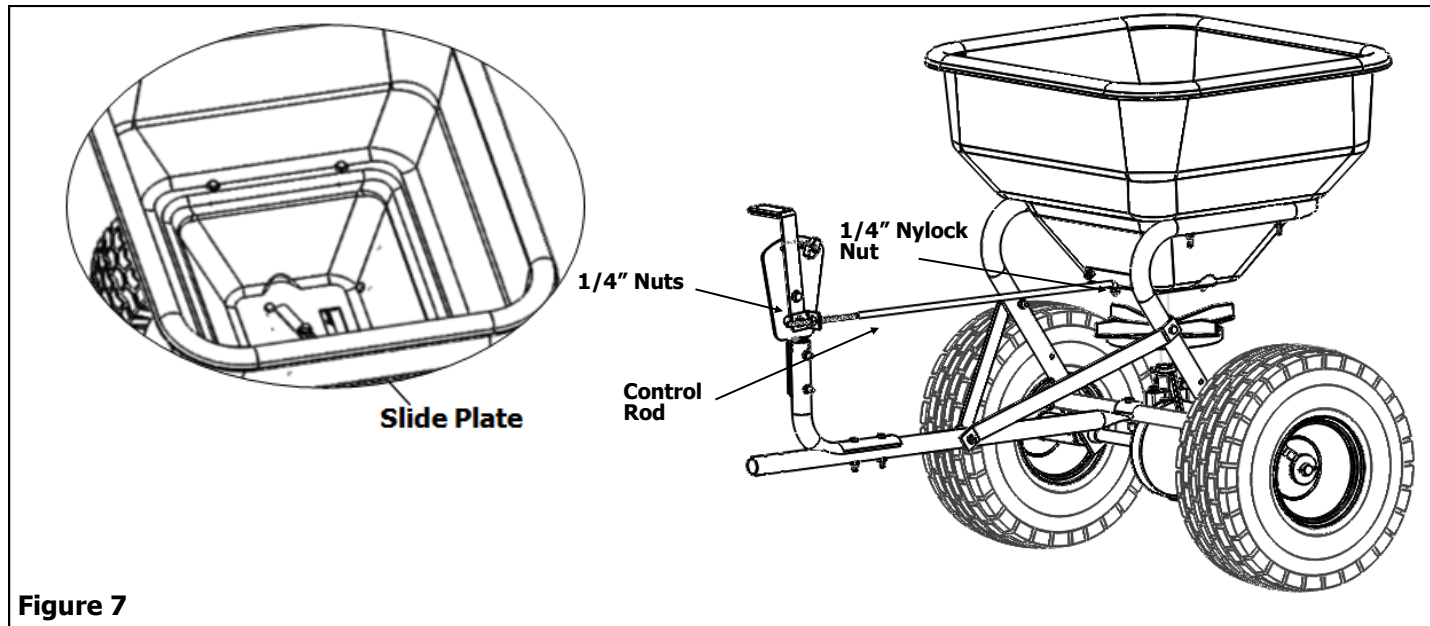

Figure 7
7. Loosen and tighten the 1/4" Hex Head Nut onto the Control Rod till the Control Rod and the Tab gets aligned and secure it. Slide the Slide Plate along the Control Rod until the flow plate in the bottom of the hopper is open half way, adjust the 1/4 Nylock Nut which secures the slide plate and control rod if required. See figure 6 for Slide Plate position. Make sure the slide plate will open and close all the way. Readjust if necessary. See Figure 7.